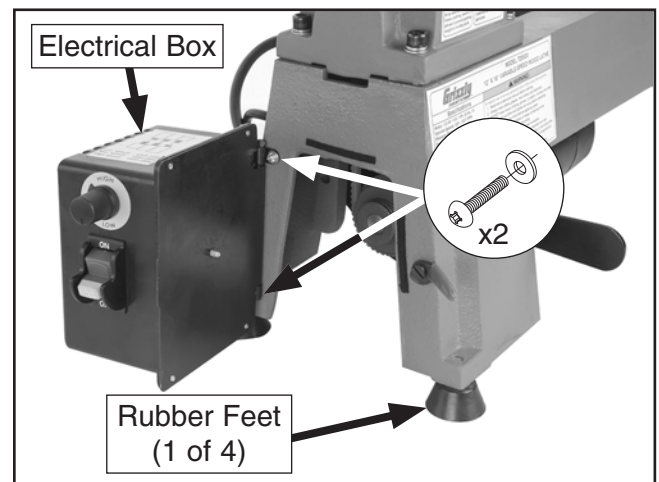

Figure 12. Rubber feet and electrical box installed.
1. Thread (4) rubber feet into mounting holes (see **Figure 12**). Adjust feet until lathe sits level, without rocking.